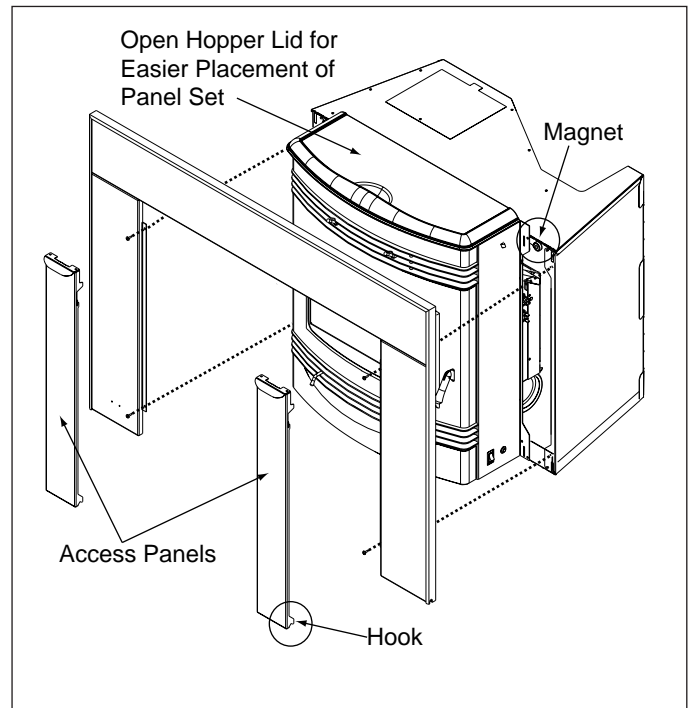

Figure 36.3
2. Open the hopper lid by pulling toward you. This will make it easier to set the panels in place. Secure the panels to the insert, 2 screws per leg, as shown in **Figure 36.3.**
5. Install the access panels. At the bottom of the access panel there are 2 hooks that slip into a slot at the bottom of the side panel and a magnet at the top that holds the access panel in place. **Figure 36.3.**